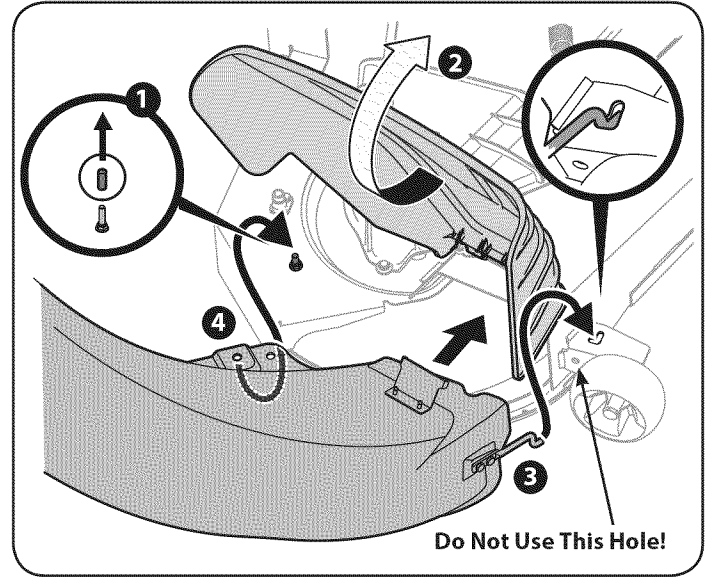

Figure 16
2. Remove the deck pin rubber protective cap, 1 in Figure 16.
3. Raise the chute deflector (2 in Figure 16) on the deck and hold it while you position the discharge chute over the chute opening.
4. Insert the end of the discharge chute elbow(3) into the hole provided in the deck wheel mount as shown in the inset of Figure 16.
5. Pivot the discharge chute rearward until the hole in the discharge chute elbow aligns with the pin on the deck. Move the discharge elbow down onto that pin as shown in 4 of Figure 16.